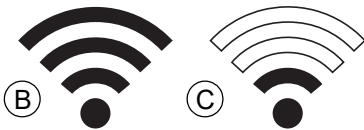

Figure 2-4. Signal Strength Display
3. See **Figure 2-4**. Verify the home Wi-Fi network is being detected by the mobile device. Observe the Wi-Fi signal strength.